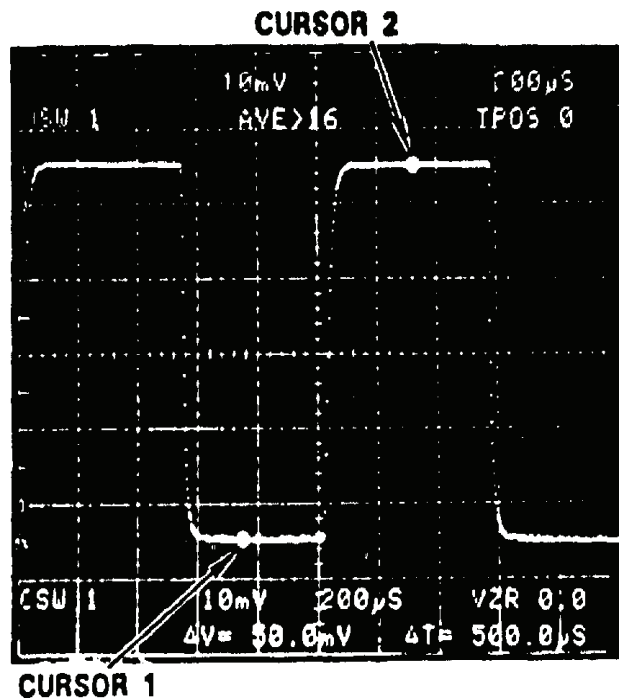

Figure 6. CURSORS 1 and 2 used to measure p-p voltage.
- (1) Press **MENU/TEST**, **MEMORY DISPLAY 4, 5, 6** and **MENU/TEST** pushbuttons.
- (2) Press **TRIGGERING/COUPLING HF REJ** pushbutton.
- (3) Set **VOLTS/DIV** switch to **10 mV** and **TIME/DIV** to **200 μ s**.
- (4) Connect oscilloscope calibrator **SOURCE/MEASURE CHAN 1** output to **CH 1**.
- (5) Press oscilloscope calibrator **VOLTAGE** key and set for a frequency of 1 kHz and amplitude for 50 mV.
- (6) Press **f** (function) and **CURSORS Δ ON** pushbutton and position **CURSORS 1** and **2** as shown in figure 6.
- (7) Adjust **CH 1 AQR GAIN** for **CURSOR** readout of $\Delta V=50$ mV.
- (8) Adjust oscilloscope calibrator knob located below the **EDIT FIELD** key for 5 divisions displayed on TI crt. Displayed **err** on oscilloscope calibrator will indicate ± 2 percent and TI ΔV readout will indicate between 49.0 and 51.0 mV.
- (9) Adjust TI settings and oscilloscope calibrator **VOLTAGE** output settings as listed in table 3. At each setting, verify TI ΔV readout is within limits specified and vertical deflection is as specified ± 2 percent.